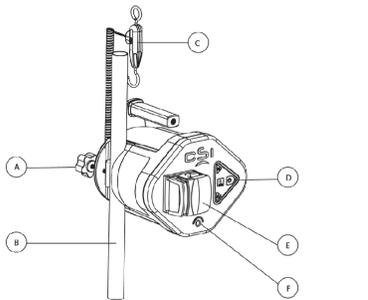

Figure 2. OAS Pump Front View
The OAS pump provides the saline/lubricant pumping mechanism and power to the device. The small, reusable, and portable OAS pump attaches to a standard five-wheel rolling intravenous (IV) pole (Figure 2 and 3) and plugs in to a wall power outlet. The OAS pump includes a built-in, audible 25 second spin time notification, system power and priming buttons, and status indicators.